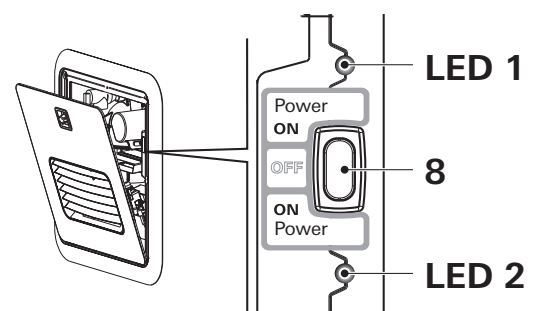

Fig. 8
2. To switch on the appliance, switch the POWER switch (Fig. 8 – 8) to one of the two "ON" positions.
- When the green power ON LED 1 (Fig. 8 – LED 1) is lit, the appliance is switched on.
- If the red error code LED 2 (Fig. 8 – LED 2) is lit / flashes, there is a fault or warning. (refer to "APPENDIX A – Error Codes" on Page 27).
3. Switch off the appliance at the POWER switch (Fig. 8).
- The green Power-ON LED 1 (Fig. 8) extinguishes.